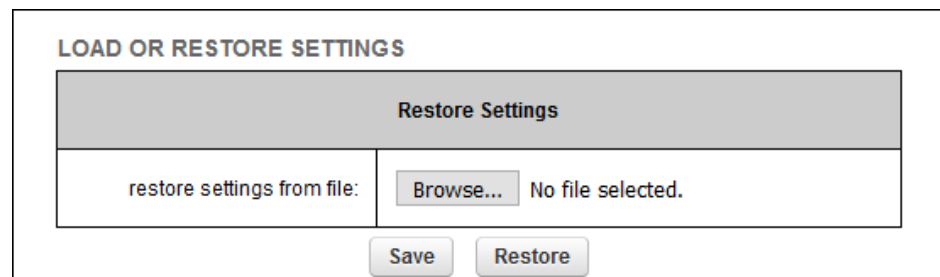

Figure 60. Configurator GUI (LOAD OR RESTORE SETTINGS dialog)
- The **LOAD OR RESTORE SETTINGS** dialog will be shown (Figure 60 \(page 137\)).